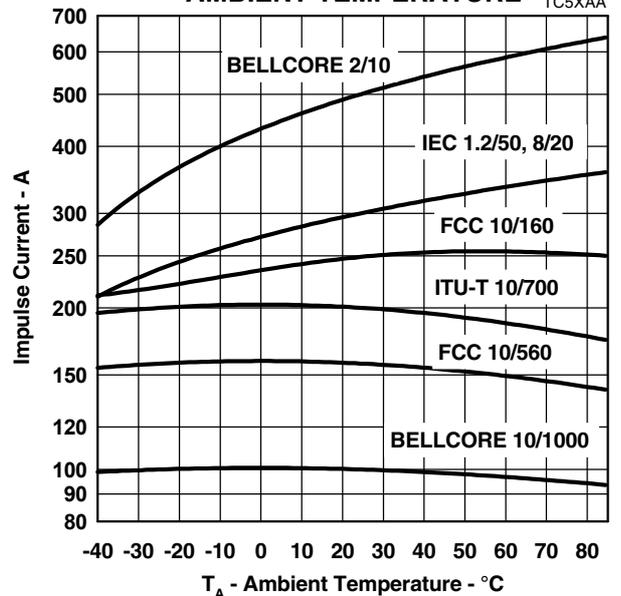

Figure 10.
4. See Figure 10 for current ratings at other temperatures.
If the impulse generator current exceeds the protectors current rating then a series resistance can be used to reduce the current to the protectors rated value and so prevent possible failure. The required value of series resistance for a given waveform is given by the following calculations. First, the minimum total circuit impedance is found by dividing the impulse generators peak voltage by the protectors rated current. The impulse generators fictive impedance (generators peak voltage divided by peak short circuit current) is then subtracted from the minimum total circuit impedance to give the required value of series resistance. In some cases the equipment will require verification over a temperature range. By using the rated waveform values from Figure 10, the appropriate series resistor value can be calculated for ambient temperatures in the range of -40 °C to 85 °C.